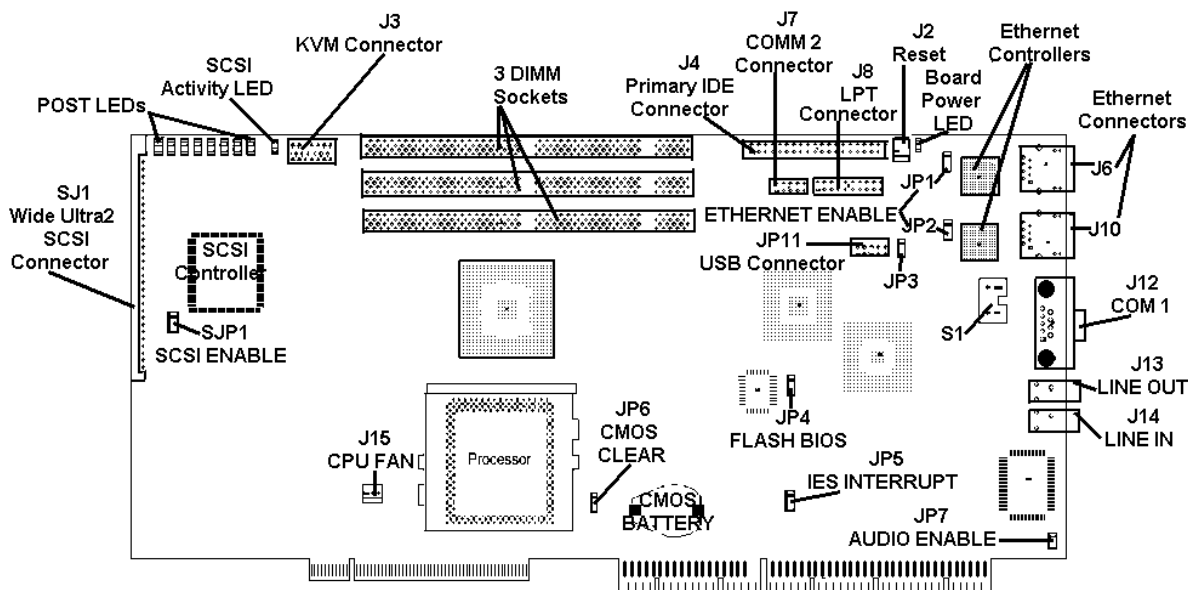

Figure 2 FC370-673x Board Layout
The FC370-673x board has an integrated Wide Ultra2 SCSI controller with Single-Ended or Low Voltage Differential (LVD) support to an internal SCSI connector. The board layout is pictured in Figure 2.
S1, position 2, is for data carrier detect (DCD). If position 2 is set in the “on” position, the FC370-673x board will reset the CPU when there is a loss of carrier. The factory default setting for S1, position 2, is in the “off” position. See Figure 2 for Switch 1 (S1) location.
The board is equipped with two integrated Intel 82559 PCI fast Ethernet controllers, each with RJ-45 10/100 BASE TX connectors on the mounting bracket at the rear of the board. The I/O addresses and interrupts are set by the PCI plug and play BIOS at boot time. The controllers are enabled or disabled via jumpers JP1 and JP2 (see Figure 2 for jumper locations).
If the Flash Bios is to be upgraded, a shunt must be installed on the 2-pin jumper JP4 (see figure 2 for JP4 location). Upgrades typically come on a floppy disc and are accompanied by upgrade instructions.* When the upgrade is complete, the shunt should be removed to protect the system from accidental erasure.
The CMOS memory can be cleared by using JP6 (see Figure 2 for JP6 location). This memory controls the maintenance and storage of three sets of information: (1) the date and time generated and displayed on the computer screen; (2) the peripheral setup, i.e. programming base register for the chip sets; and (3) the password necessary for entry.
As stated above, the on-board Symbios Wide Ultra2 SCSI controller can be enabled or disabled with SJP1 (see Figure 2 for SJP1 location).
Additional memory can be installed on the FC370-674x board. There are three DIMM slots available on this board (see Figure 2 for DIMM slot locations). If only one DIMM is installed, this DIMM should be installed in the DIMM located closest to the top edge of the board. The sequence of DIMM installation relative to DIMM size is not important. DIMMs must be PC-100 compliant to run at 100MHz or PC-133 to run at 133MHz.
The FC370-673x board has a group of eight LEDs arranged to the right of the SCSI connector (SJ1) (see Figure 2 for POST LED location). As the system proceeds through its Power On System Test (POST) these LEDs display binary codes which can be used to diagnose board failures. Refer to the AMIBIOS POST Checkpoint Codes (Doc. #0882) for detailed POST code information, or check the Cubix website:
There is a Board Power LED on the FC370-673x board which is located to the right of the Reset Jumper (J2) (see Figure 2 for Board Power LED location). This LED light will be green when there is power to the board. This LED is only visible when the cover is off the Density System.